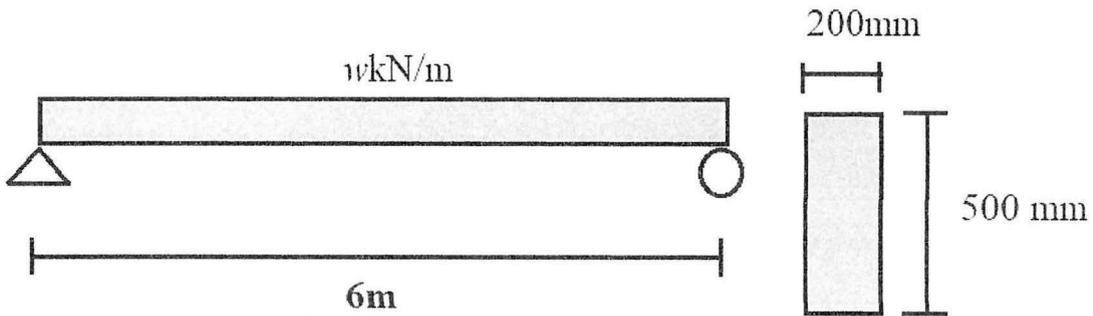

Figure Q3: Simply Supported Beam
**Q3** The **Figure Q3** shows a simply supported rectangular reinforced concrete beam with 6 m length. The beam is inside building subject to a 1 hour fire resistance and design for 50 years design life. Design the beam with deflection and crack check. Illustrate the beam detailing. Use concrete characteristic strength,  $f_{ck} = 30 \text{ N/mm}^2$  and steel characteristic strength,  $f_{yk} = 500 \text{ N/mm}^2$ .
- (c) Calculate all the area of steel required for beam in **Figure Q3**. (12 marks)
- (e) Check the deflection for the beam in **Figure Q3**. (5 marks)